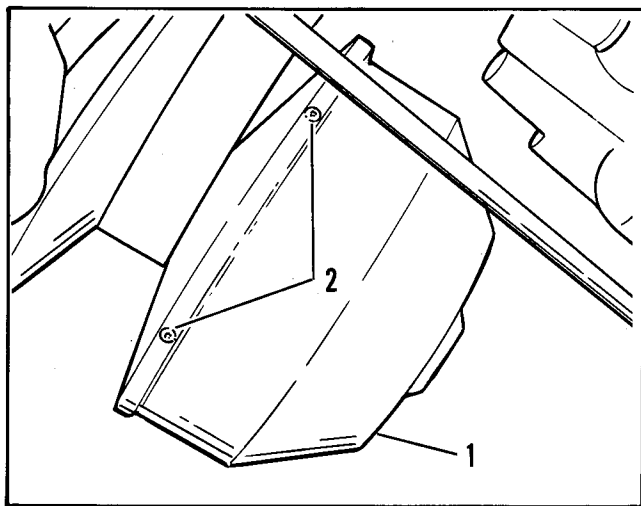
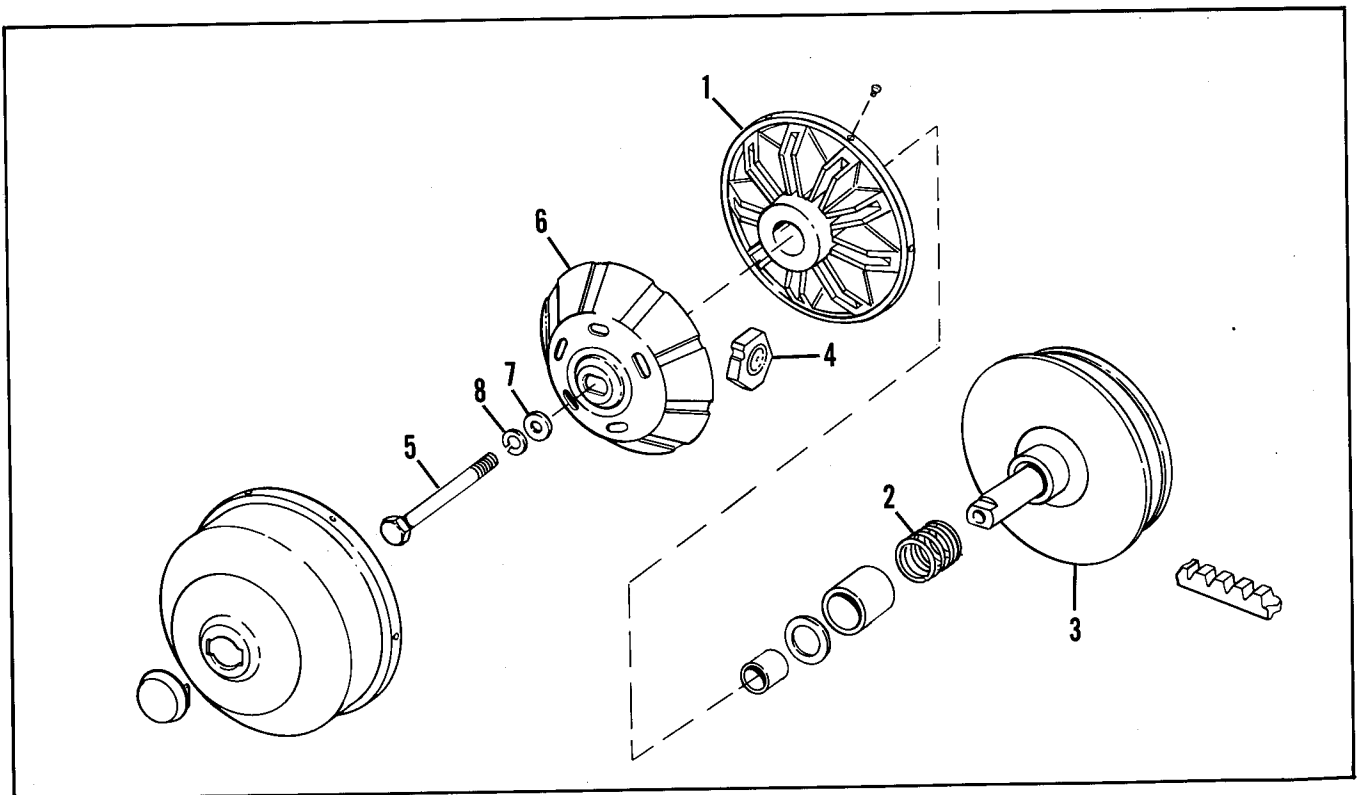

Figure 9-2 – Primary Drive Cover
Figure 9-6 - Primary Drive
- e. See Figure 9-2. Remove primary drive cover screws (2), pull cover (1) off.
- h. Separate the floating flange (1), spring (2) and fixed flange (3), Figure 9-6.
- i. Remove the pucks (4), Figure 9-6.
- a. See Figure 9-6. Install spring (2), floating flange (1) and weights (4) to fixed flange (3) on a flat surface. Check post length.
- b. See Figure 9-6. Install cover (6) by lining up the "D" slot in the cover with the slot of the stem while pressing on the cover to compress the spring (2) until cover (6) contacts the stem. Lightly tap cover onto stem until stem is flush with top of cover.
- c. Install washer (7), lockwasher (8) and bolt (9) into stem. Install primary onto crankshaft taper and thread bolt (9) by hand. Hold primary as described in NOTE under Step f of Disassembly and tighten bolt (9) to 38-48 ft.-lbs. torque.
- d. See Figure 9-2, Page 9-2. Install cover (1), screws (2) and plug (3).